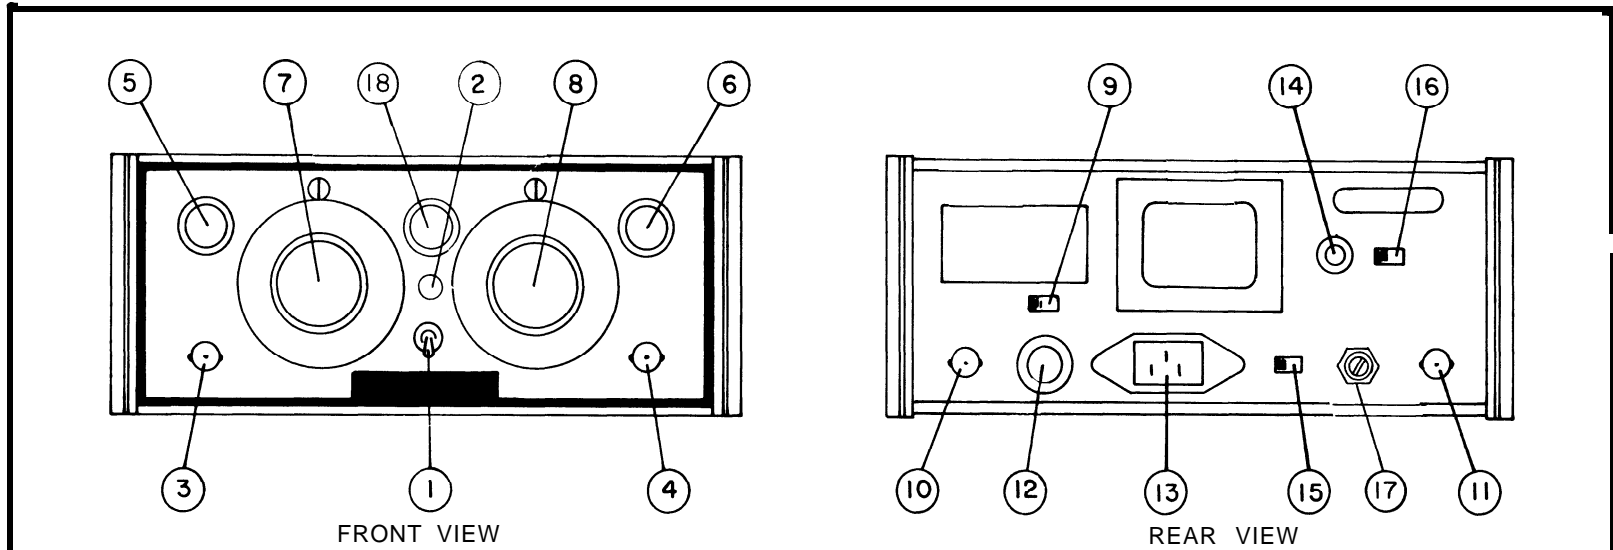

FIGURE 2-2 FRONT AND REAR PANELS
2.2 CONTROLS AND TERMINALS (Figure 2-2)